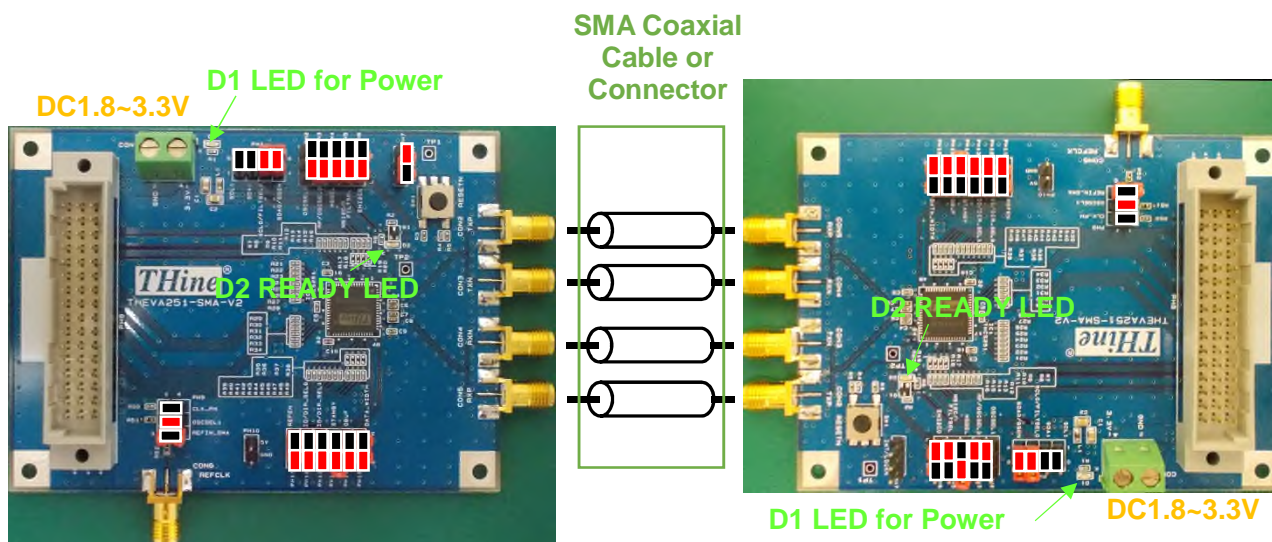

Figure 3 THEVA251-SMA-V2 Quick start pin setting
1.3.1 Connect the master and slave boards with jumper pin settings as shown in Figure 3 using SMA coaxial cables.